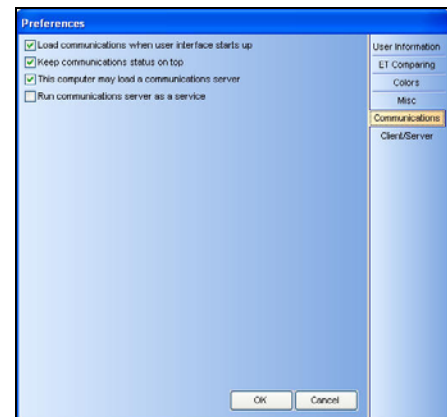

Figure 2.0.9
2. Click on the **Communications** tab (Figure 2.0.9).
Note: This will take you to the “Communications” screen for Miscellaneous (Figure 2.0.9).